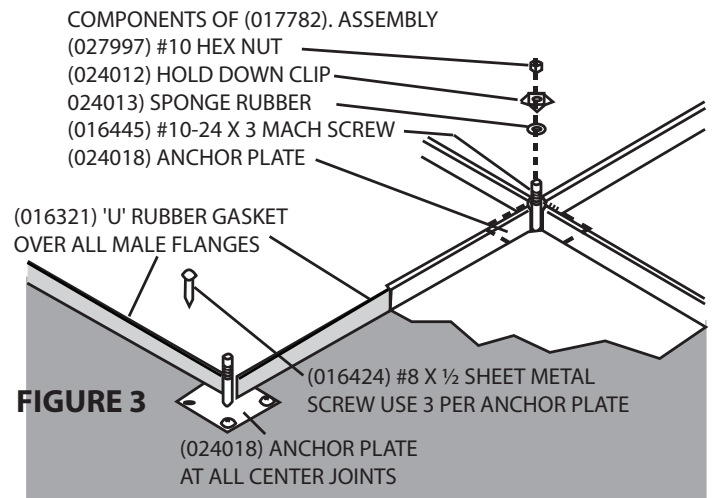

FIGURE 3
- E. Slide a (017782) center roof anchor assembly under the roof section and place it at the corner as shown in Fig. 3. Drill 3/32" holes into ceiling metal at the positions of the center hold-down clips and fasten with (016424) #8-½" sheet metal screws.